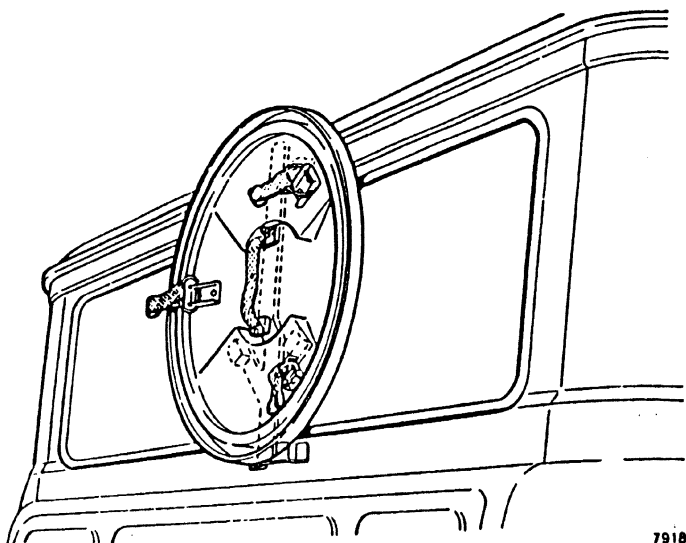

Fig 9 Observation hatch stowage
66. A bracket positioned on the centre of the cab back panel (Fig 9) is provided for hatch cover stowage when removed.